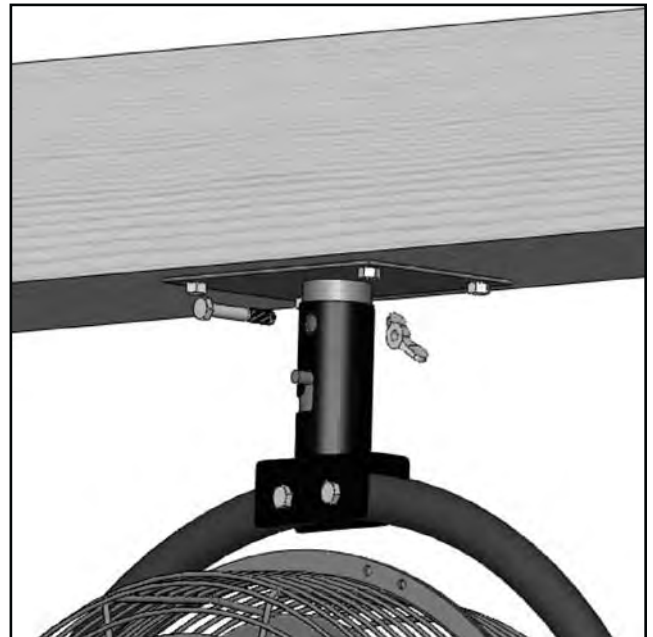

Figure 8:
4. Rotate the entire fan so the safety pin locks into place and the holes on the Mounting Post line up with the holes on the Connector Bracket (Item #4*). (See Figure 8**)
5. Insert the Base Knob (Item #15*) through the Mounting Post and Connector Bracket (Item #4*) and tighten firmly with the Wing Nut (Item #14*). (See Figure 8**)